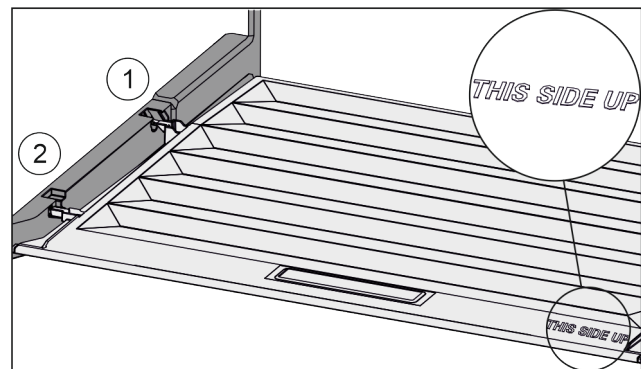

Fig. 45
- ▶ Insert the lip of the cover over the opening of the rear bracket *Fig. 45 (1)* and click into place *Fig. 45 (2)*.